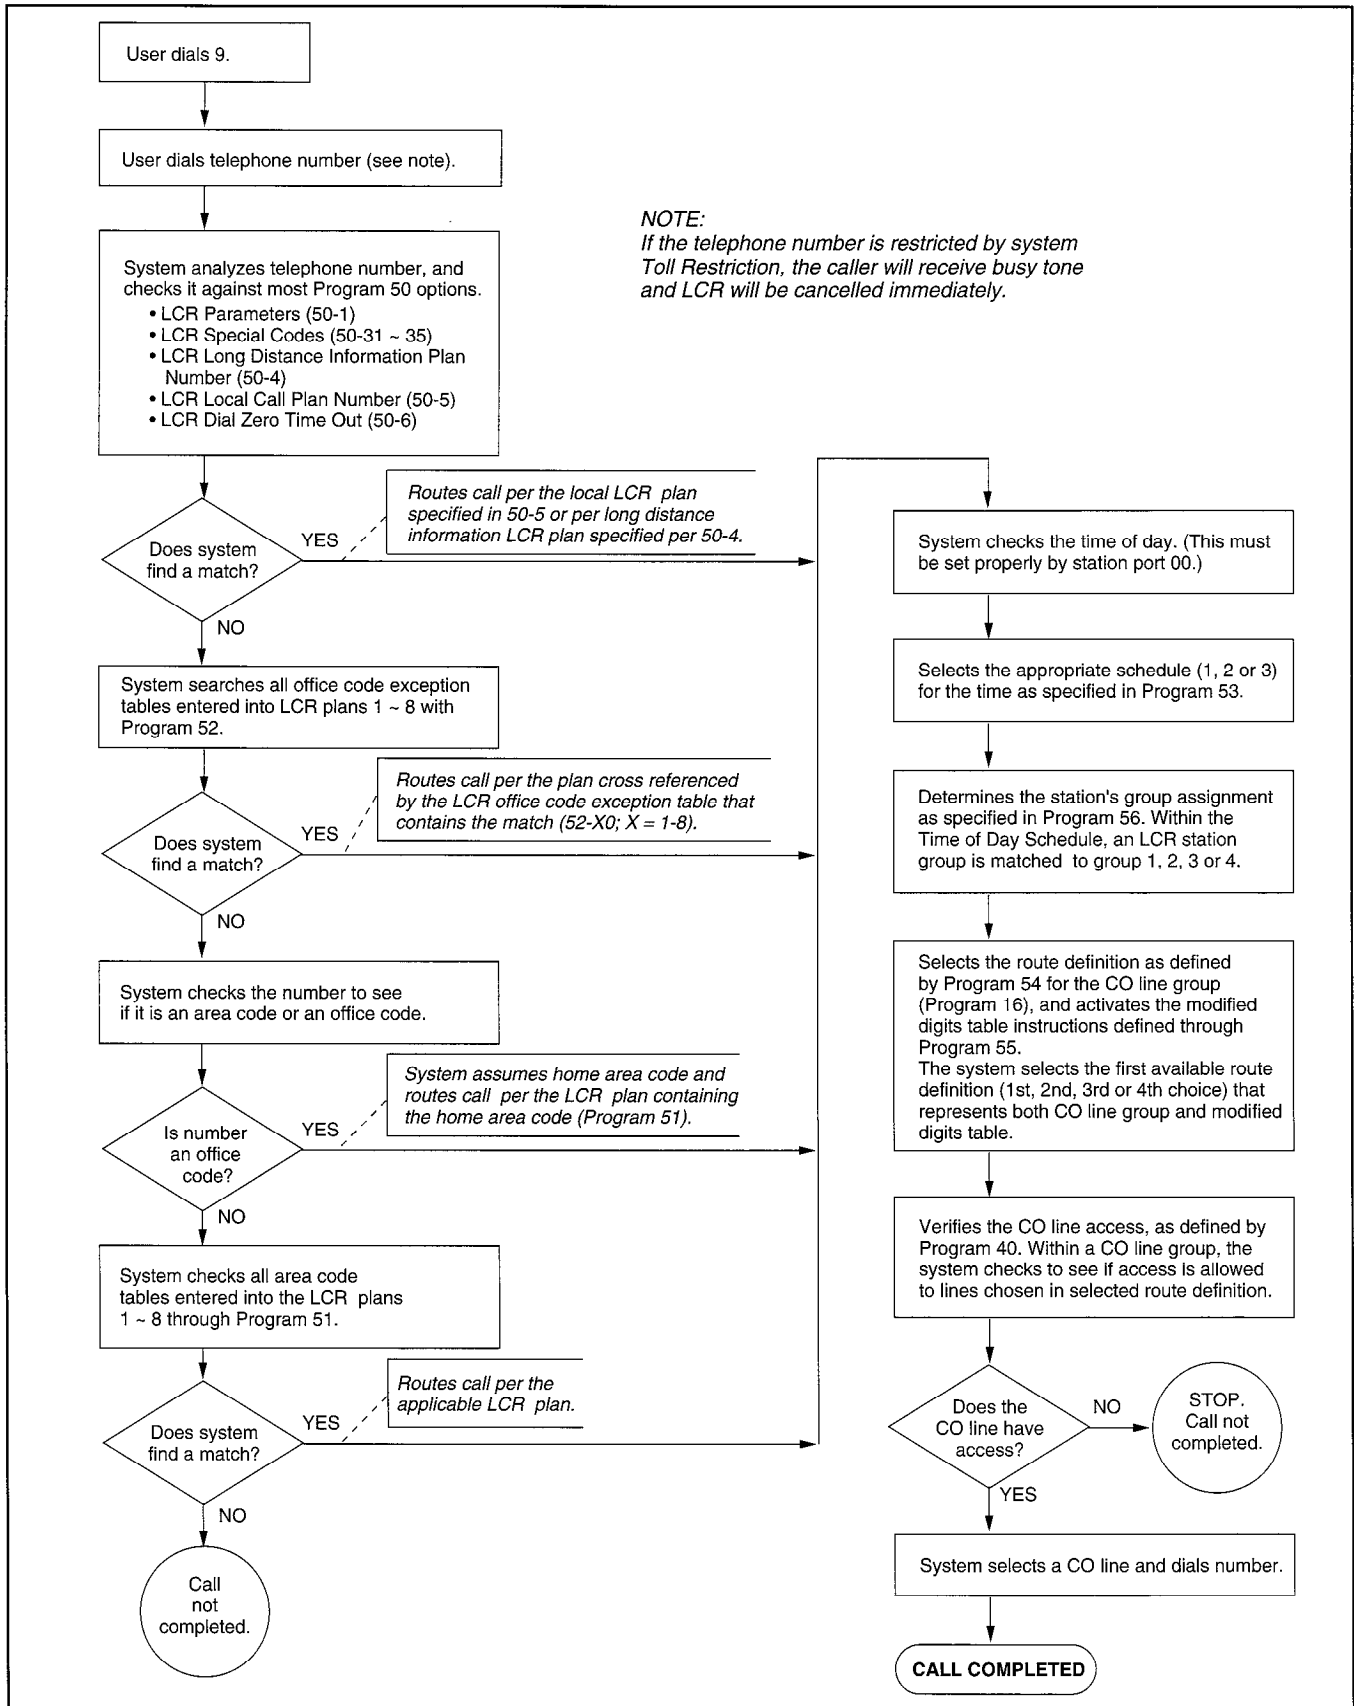

FIGURE 2-1
6.01 The LCR feature enables the system to automatically route each outgoing voice and data call over common carriers and selected CO lines. The customer chooses these lines for the specific time of day and for system users with varying priorities. If the system is programmed properly, LCR can select the most economical route, helping save money. If the best routes are unavailable, users with priority can access more expensive outgoing routes. Figure 2-1 shows a block diagram of LCR operation. Several elements of LCR must be defined in programming.